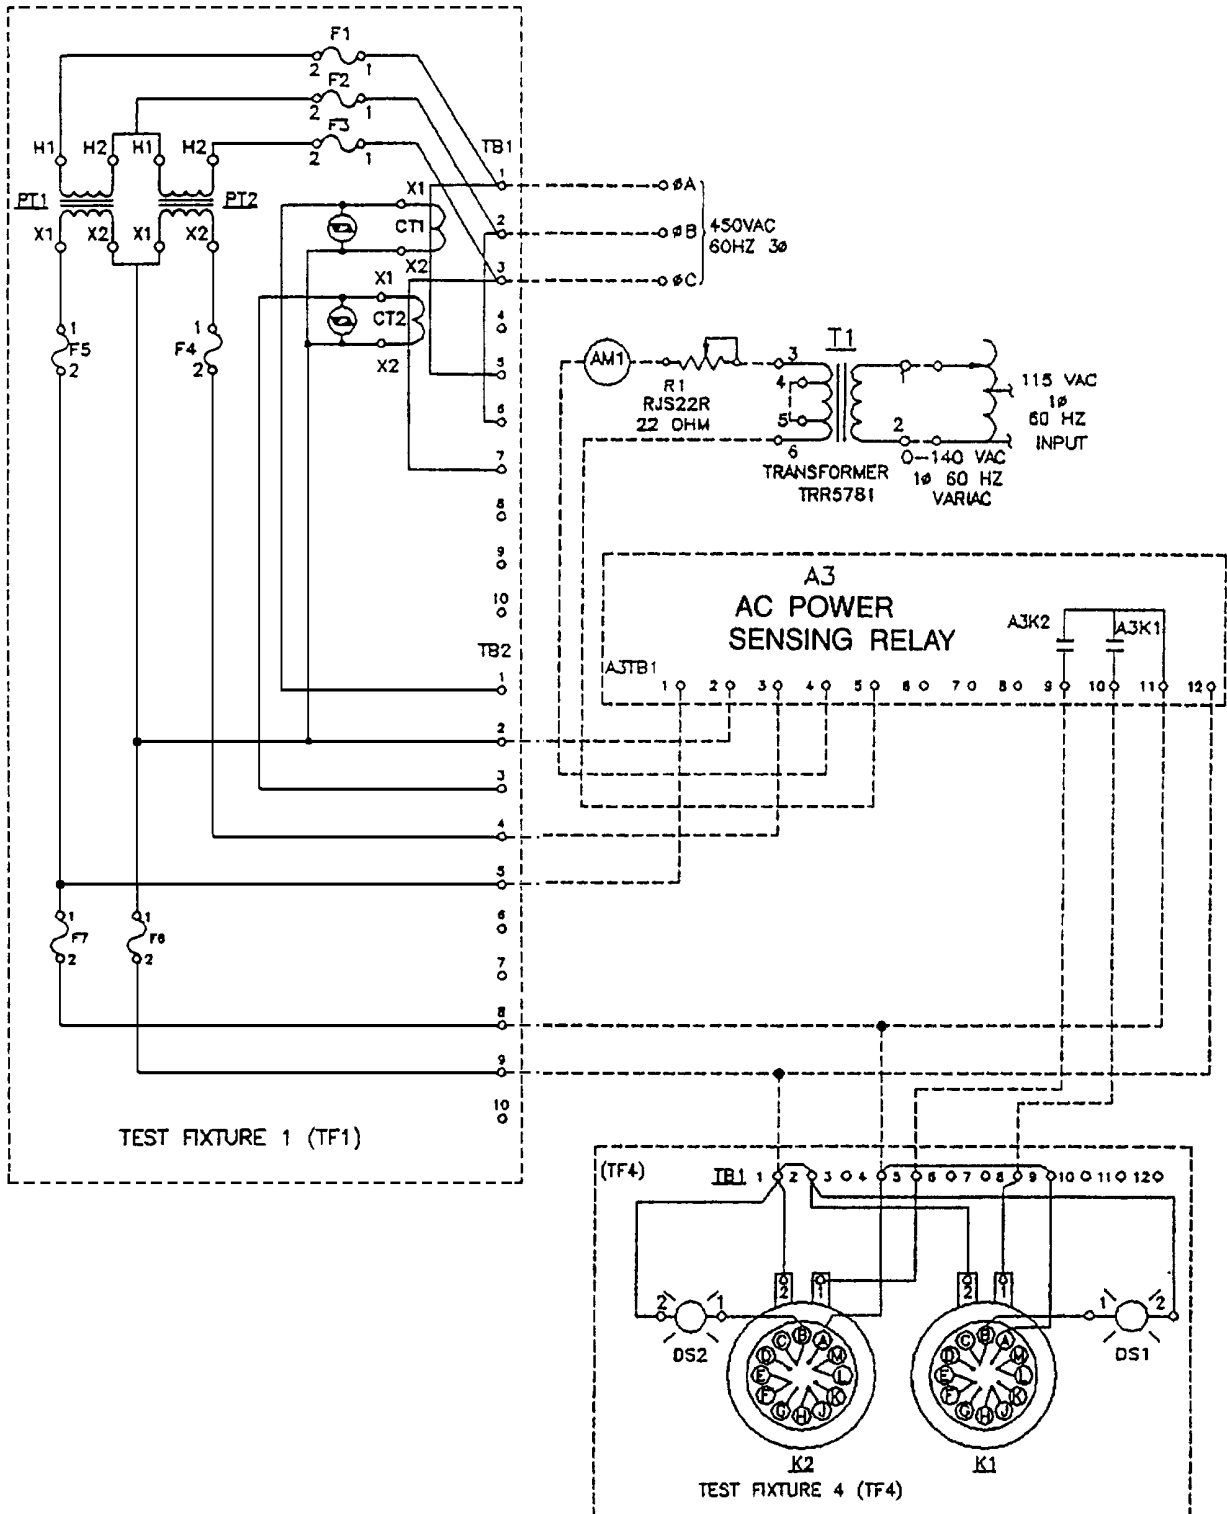

Figure 5-7. Test Fixture - AC Power Sensing Relay
2. Test Fixture 4 (TF4) as shown on figure 5-7, consisting of the following components:
- b. Configure Test Fixtures as shown in figure 5-7.
- a. Connect Power Sensing Relay A3a unit to be tested to test fixtures (TF) as shown in figure 5-7;
- (1) Confirm connection on A3TB1-1 to TF1 TB2-5.
- (2) Confirm connection on A3TB1-2 to TF1 TB2-2.
- (3) Confirm connection on A3TB1-3 to TF1 TB2-4.
- (4) Confirm connection on A3TB1-4 through AM1 to R1.
- (5) Confirm connection on R1 Centertap to T1-3.
- (6) Confirm connection on T1-6 to A3TB1-5.
- (7) Confirm connection on A3TB-9 to TF4 TB1-5.
- (8) Confirm connection on A3TB1-10 to TF4 TB1-8.
- (9) Confirm connection on A3TB1-11 to TF1 TB2-8.
- (10) Confirm connection on A3TB1-12 to TF4 TB1-1.